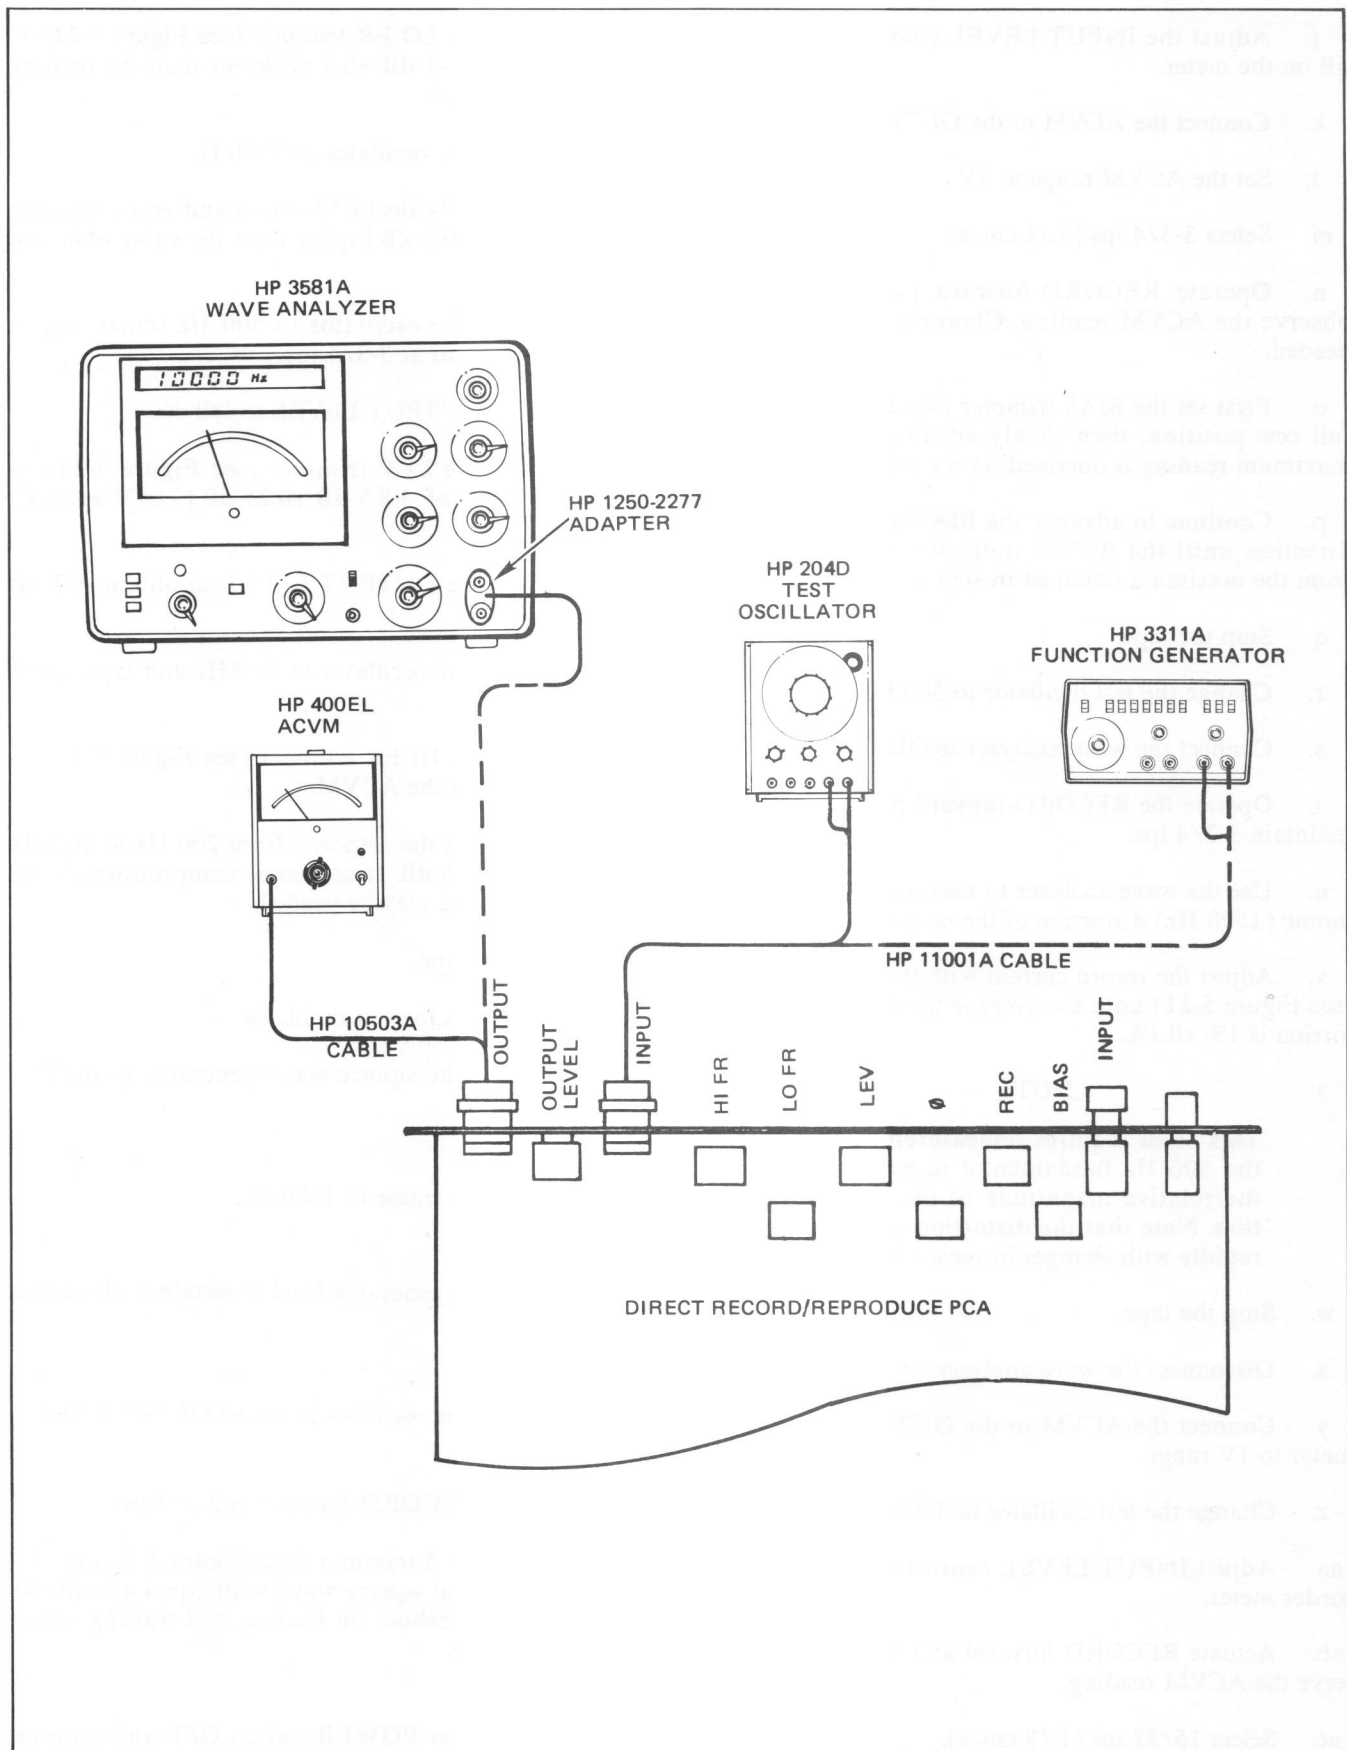

Figure 5-21. Direct Record/Reproduce Adjustment
d. Connect the test oscillator to the INPUT BNC (see Figure 5-21).
o. First set the BIAS trimmer (see Figure 5-21) to full ccw position, then slowly advance it cw until a maximum reading is obtained on the ACVM.
v. Adjust the record current with the REC trimmer (see Figure 5-21) until the average third-harmonic distortion is $1\% \pm 0.1\%$.
ae. Adjust the LO FR trimmer (see Figure 5-21) to obtain a reading $-1 \text{ dB} \pm 0.5 \text{ dB}$ lower than the reading obtained in step ab.
aj. Adjust the LEV trimmer (see Figure 5-21) to obtain a reading of $+8.5 \text{ dB} \pm 0.25 \text{ dB}$ ($2.06\text{V} \pm 0.06\text{V}$) on the ACVM.
am. Adjust the HI FR trimmer (see Figure 5-21) to obtain $+7 \text{ dB}$ on the ACVM.
av. Adjust the \emptyset trimmer (see Figure 5-21) to obtain a symmetrical square wave with equal amplitude overshoot and preshoot on leading and trailing edges (see Figure 5-22).